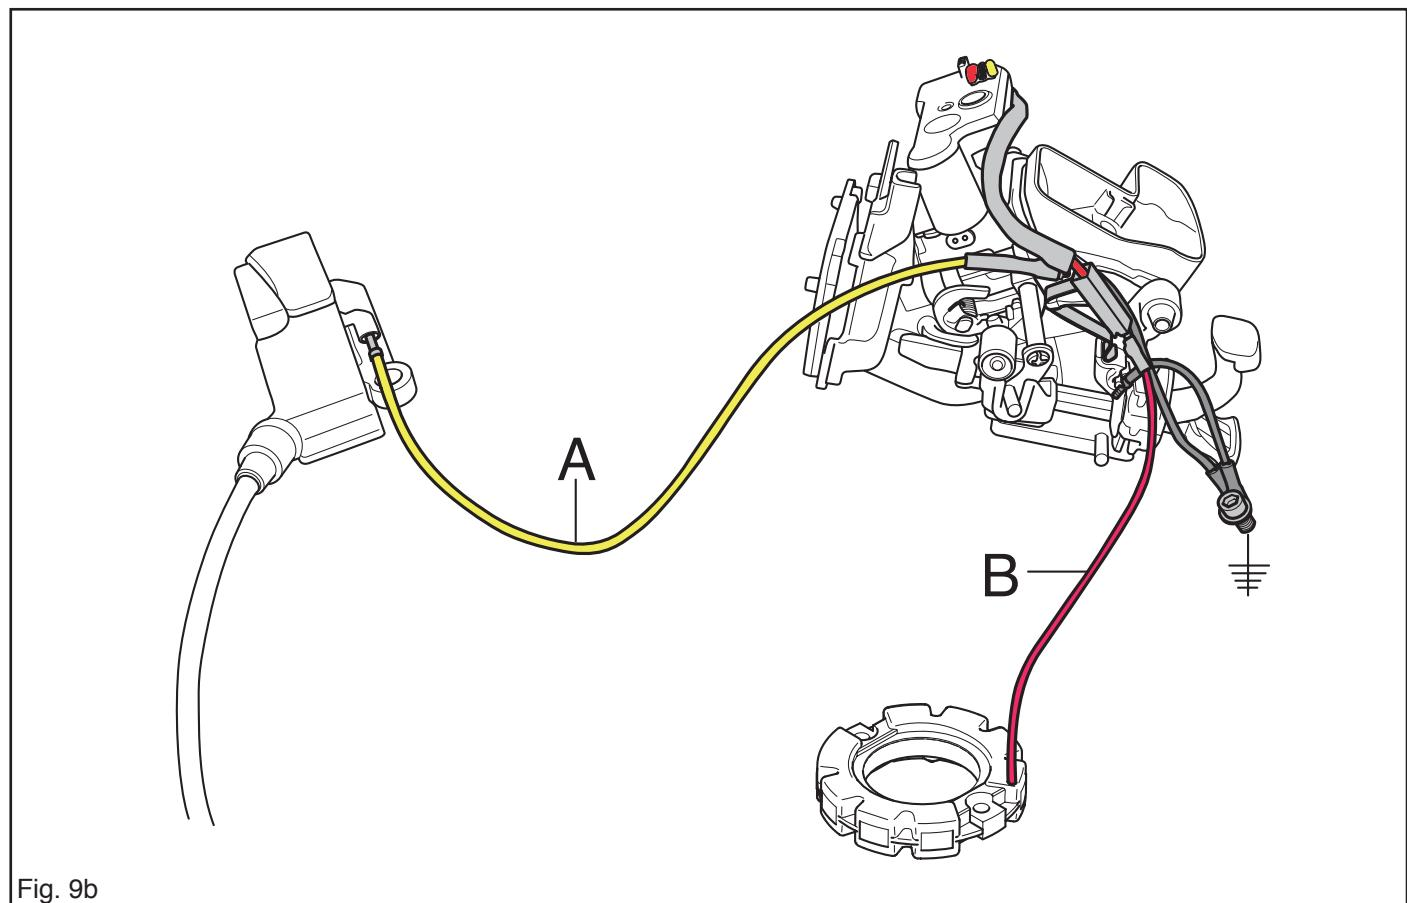

Fig. 9b
The yellow short-circuit wire (A) from the ignition module is connected to the stop switch. The red wire (B) from the generator is connected to the carburettor (AutoTune). See figure 9b.